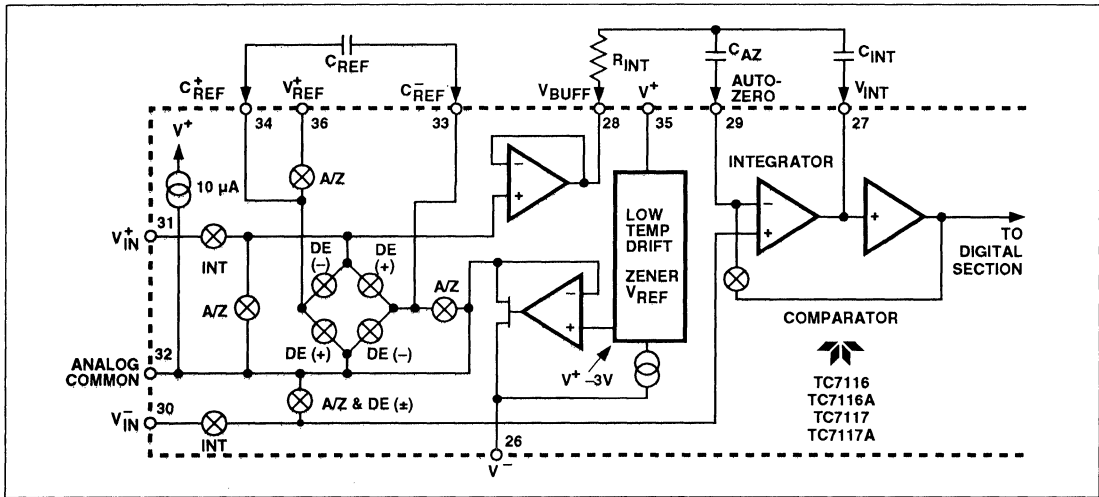

Figure 3 Analog Section of TC7116/TC7116A and TC7117/TC7117A
Figure 3 shows the block diagram of the analog section for the TC7116/TC7116A and TC7117/TC7117A. Each measurement cycle is divided into three phases: (1) auto-zero (A-Z), (2) signal integrate (INT), and (3) reference integrate (REF) or deintegrate (DE).